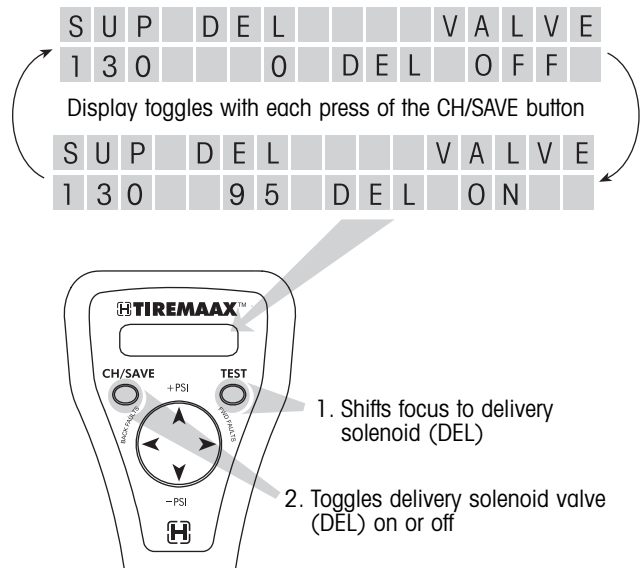

Figure 12. Testing the delivery solenoid valve (DEL) response
- To test the delivery solenoid valve response, press the TEST button (figure 12). The diagnostic focus shifts from the supply solenoid valve to the delivery solenoid valve.
Press the CH/SAVE button to toggle the delivery solenoid valve from off to on. Press the CH/SAVE button again to toggle the valve from on to off (figure 12).